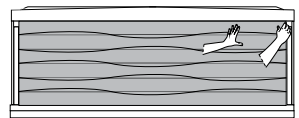

Figure 13.2b
- Remove the center panel. Grab either the top left or top right side of the front center panel, Figure 13.2b. Gently pull the cabinet forward to unsnap it from the holding clips. Make sure to support the cabinet as you work your way down the side to completely unclip it from the hot tub frame. Once completely unclipped, tilt slightly forward and lift up to remove it from the hot tub frame. Place the panel in a safe location to prevent from damaging it.